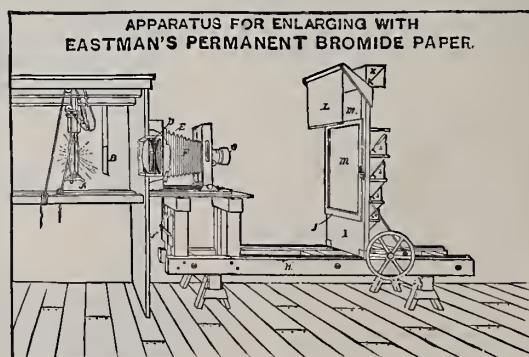

FIG. 5.
*Electric Light.* — When a large quantity of work is to be provided for, the arc electric-light is most convenient, as it is powerful and (practically) uniform. Any artificial light requires a pair of double condensers, and they should be arranged as in Figs. 5 and 6.